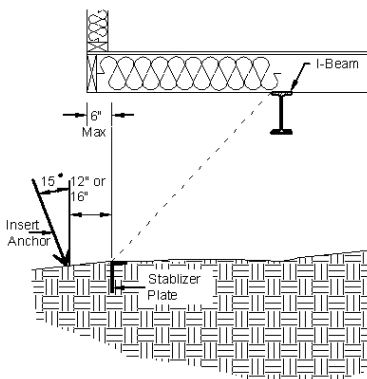

Figure 82. Determining anchor and stabilizer plate location
1. **Locate anchor.** Select a location for the anchor under the home but within six inches of the exterior wall (**Figure 82**). Avoid locations that will interfere with skirting.